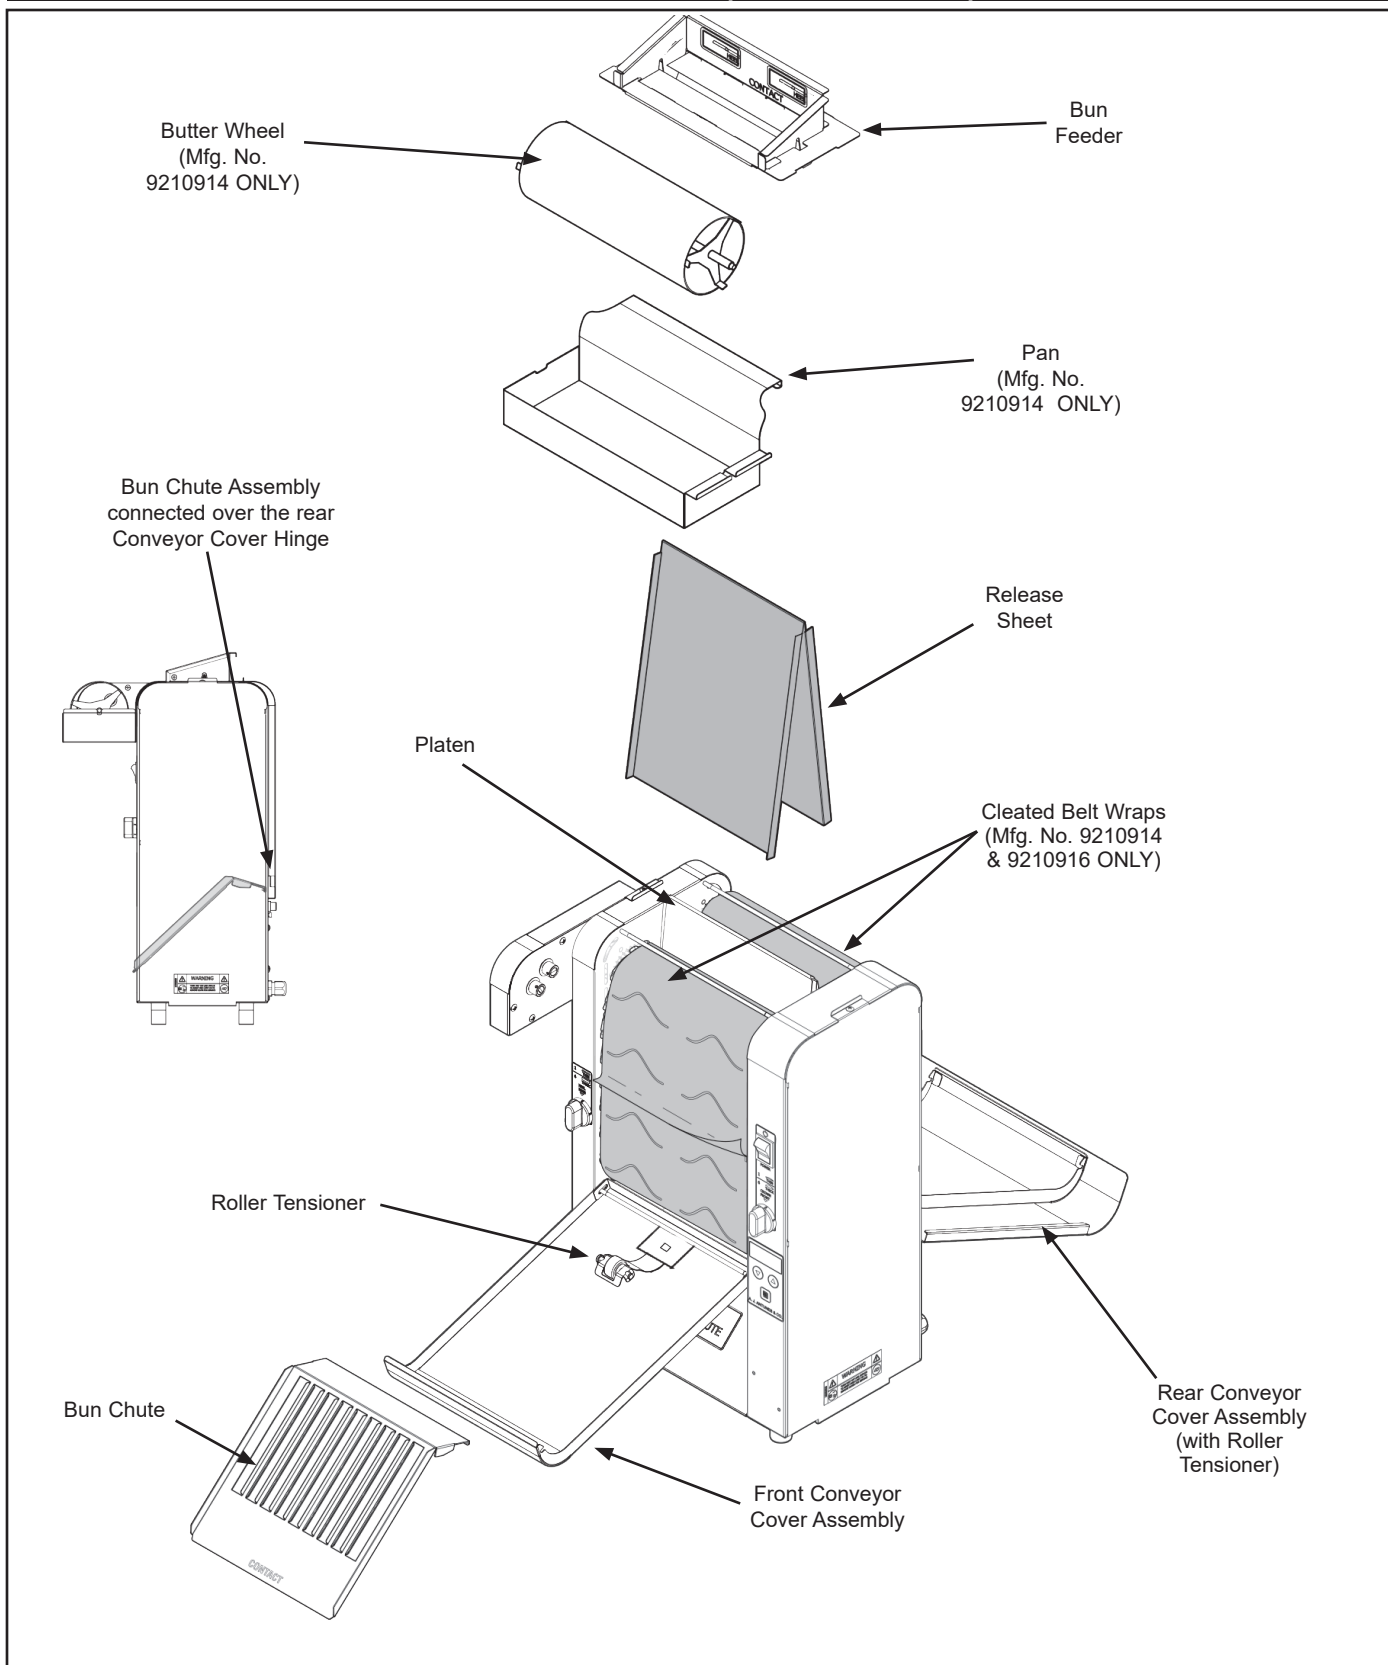

Figure 2. Components
2. Open the included large box. It should contain the following (See Figure 2):
**NOTE: The factory has pre-installed a Release Sheet over the Platen (Figure 2). Verify that it is properly in place before proceeding.**
2. Install the Pan over the front edge of the Heat Shield and place the Butter Roller in Pan and engage into gear case (Figure 2).
**IMPORTANT: Make sure Heat Shield assembly is activating the Conveyor Interlock Switch (Figure 2). The conveyors will not rotate unless the Heat Shield is in place and Conveyor Interlock Switch is activated.**